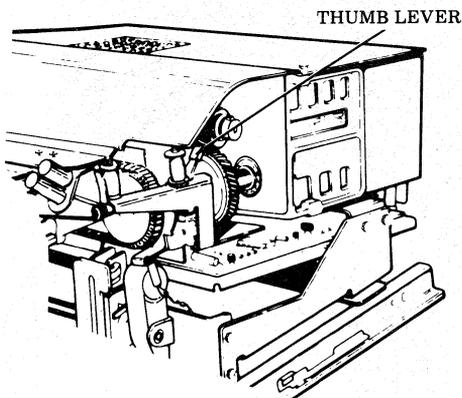

Fig. 41—Thumb Lever
- (a) Depress thumb lever on right ribbon guide bracket allowing the guide to spring open (Fig. 41).